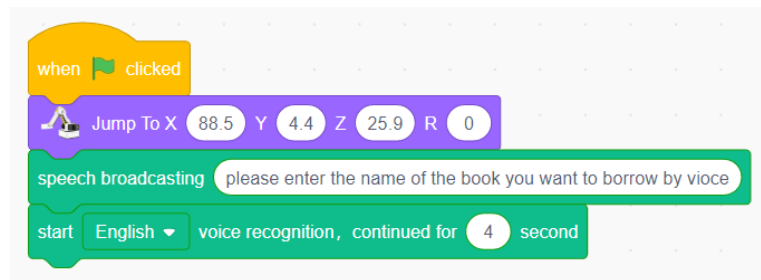

Figure 5.14 Recognizing student's voice.
Step 8: Record the voice and recognize the voice information to convert it into text. As shown in Figure 5.14.